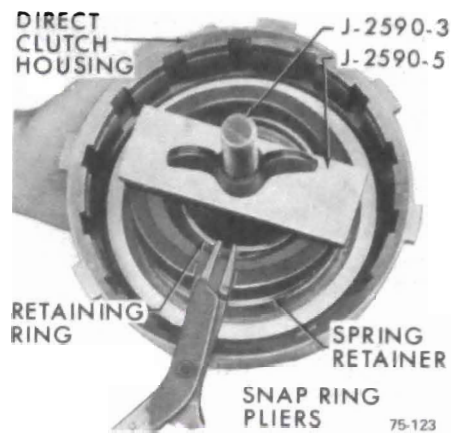

Figure 75-184
5. Install spring retainer. Compress spring retainer and install retaining ring, using Tools J-2590-3 and J-2590-5. See Figure 75-184.